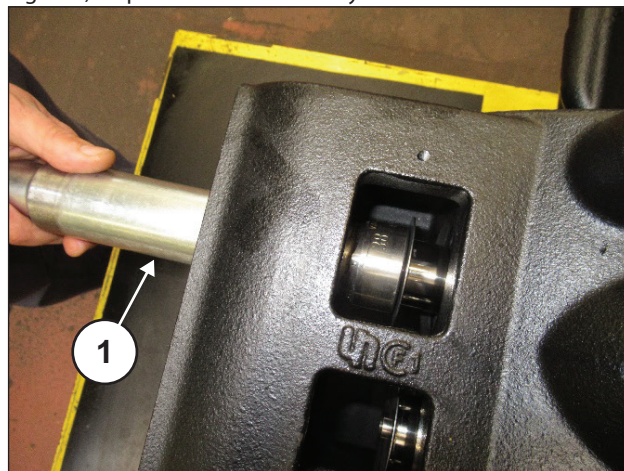
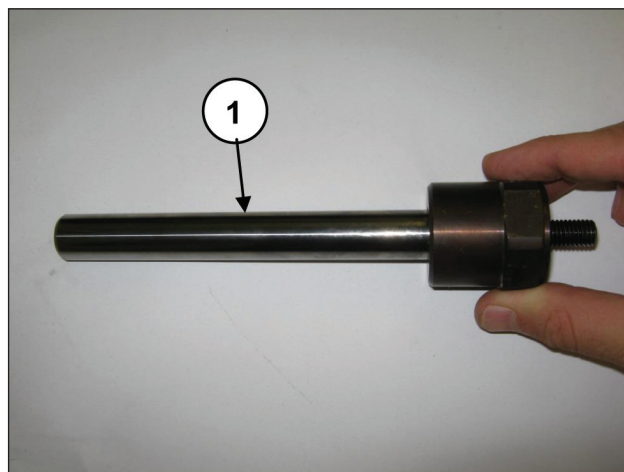

Fig. 110
Fig. 111
Remove the pistons with the special tool (code 25047400), (pos. ①, Fig. 110) and check their state of wear (pos. ①, Fig. 111). Replace them if necessary.